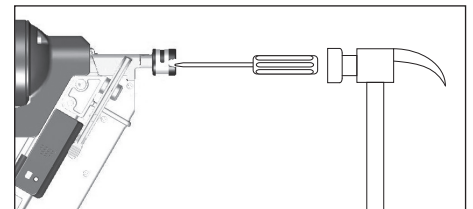

Figure 25
4. If necessary, use small hand tools to help free the jammed nail. Sometimes it is necessary to use a hammer and a long, thin screwdriver to force the driver ram back all the way into the gun (See *Figure 25*).